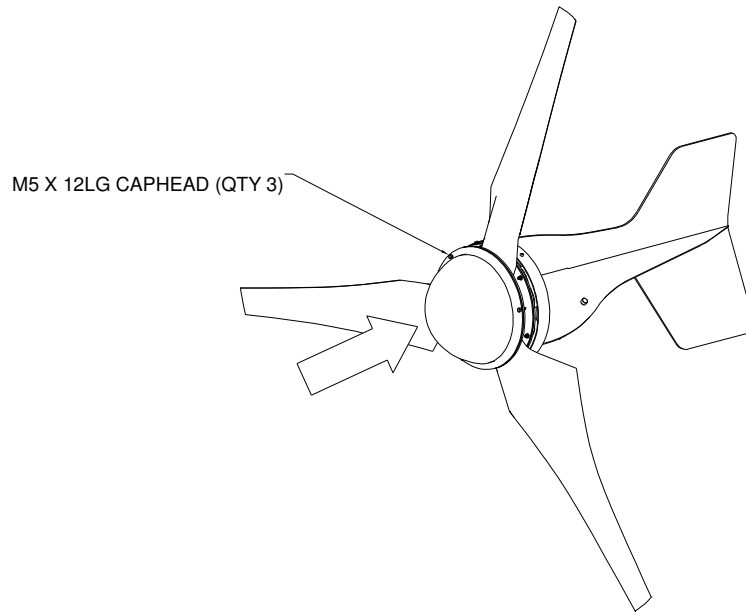

Fig 9: Attach the nose cone
- 7) **Fit the nose cone-** The nose cone can now be fitted to the rotor. This is done by aligning the 3 mounting holes of the nose cone with those on the rotor hub plate. Use 3 M5 x 12lg screws to secure the nose cone in position. Ensure that the nose cone run concentrically by spinning the rotor by hand. Slackening the fixings and adjusting the nose cone position accordingly should correct any misalignment or 'wobble' - see fig 9.